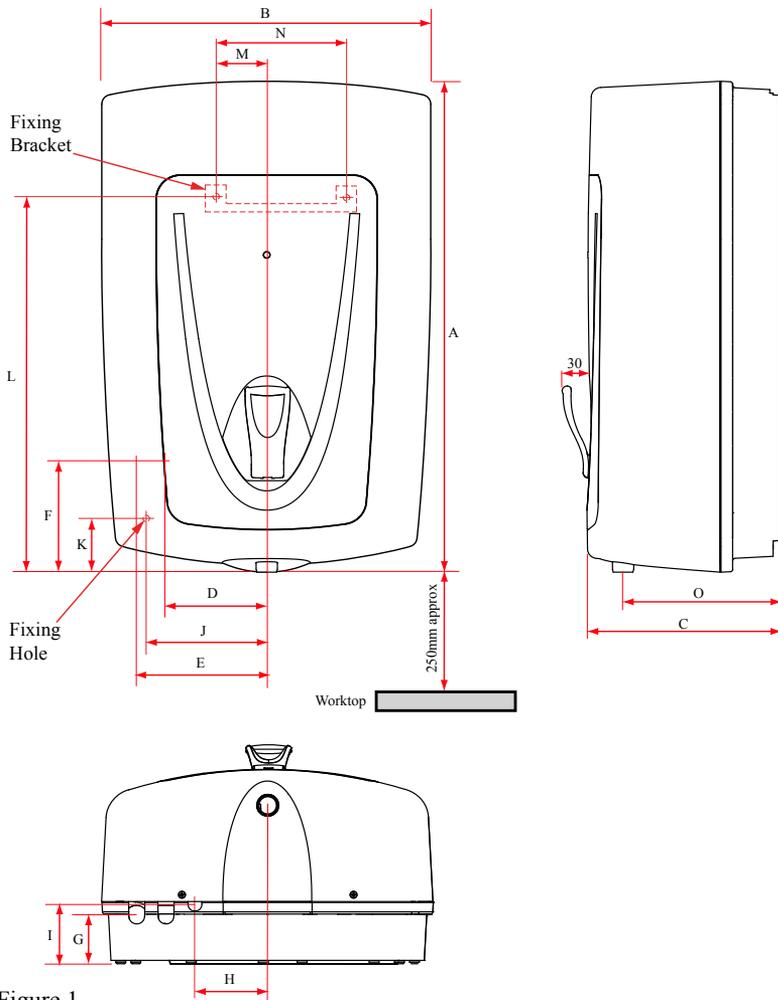

Figure 1
- 2.2 Figure.1 (p.6) details the outside dimensions of the EBW25 unit. It is recommended that the unit is positioned above the draining board. If this is not possible consideration should be given to any spillages that may occur under the appliance. The heater should be positioned at a height to suit the items being filled (flasks, pans, cups etc.). This is likely to position the base of the unit 250mm above the work surface.